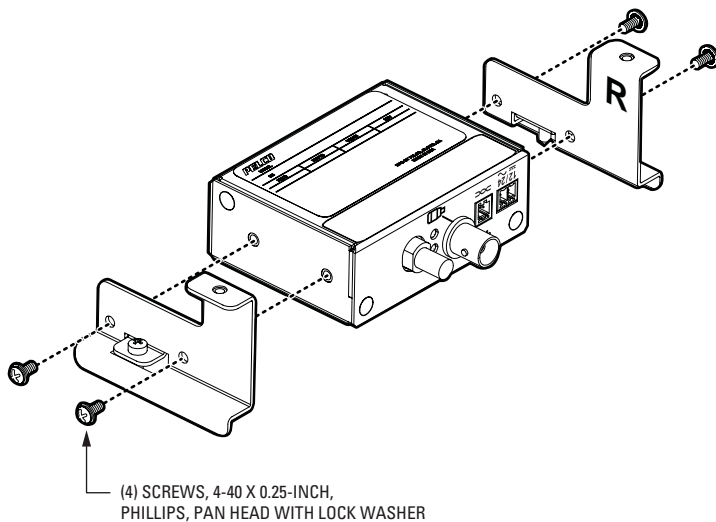

Figure 8. Attaching EH3500 Brackets to FT8301A Transmitter
2. Using the left- and right-mounting EH3500 brackets and the four 4-40 x 0.25-inch Phillips pan head screws and lock washers supplied in the EH3500 Series accessory kit, attach the brackets to the transmitter (refer to Figure 8). Note that the left- and right-mounting brackets are marked **L** and **R**, respectively, to indicate the side of the transmitter to which each bracket should be mounted.